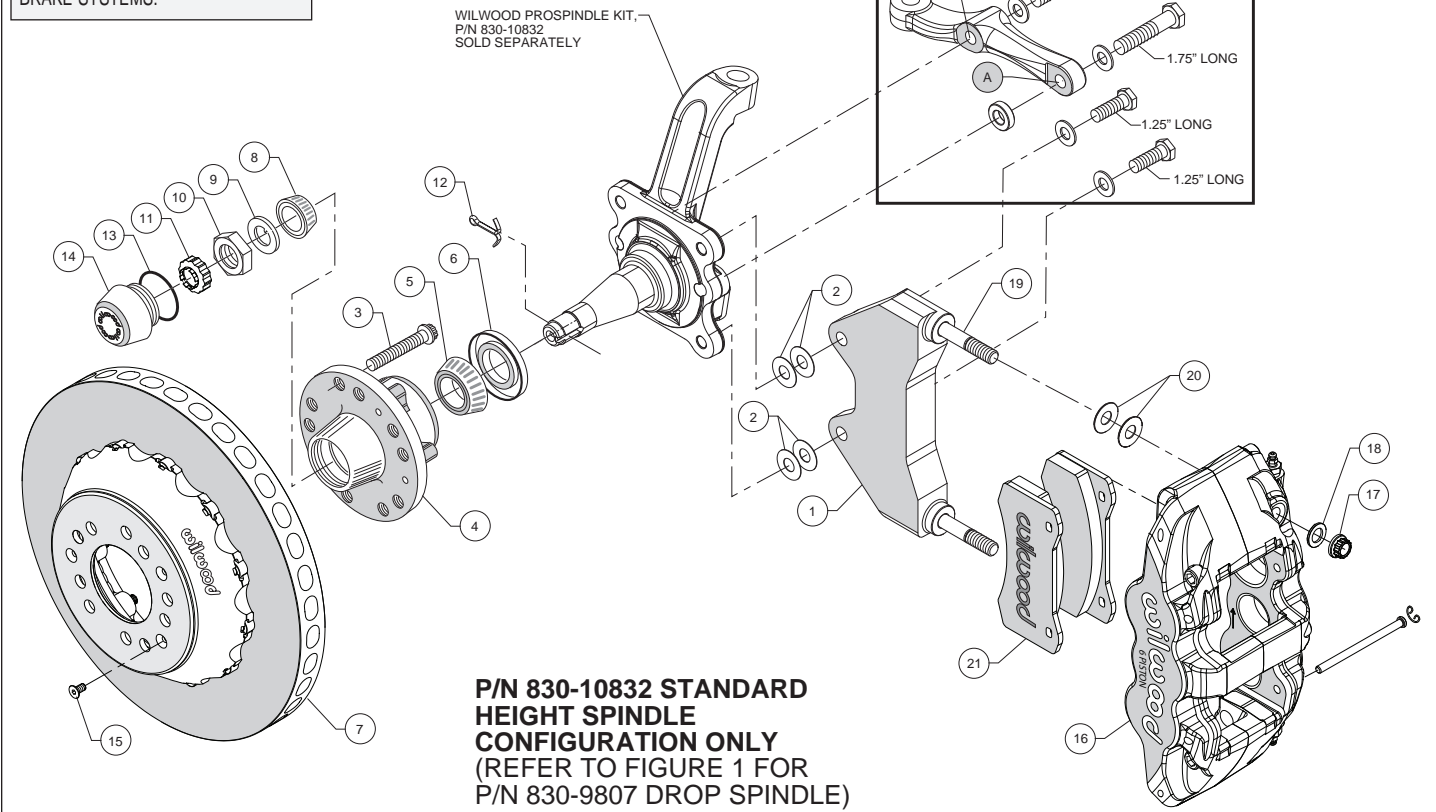

Figure 2. Installation Configuration For Standard Hieght Spindle, P/N 830-10832
- Orient the bracket as shown in Figure 2 and Photo 2. Install using 1.25" long bolts and .06" thick washers (from ProSpindle kit), and two .016" thick shims (2) on each bolt between the bracket and spindle, Figure 2. Temporarily tighten mounting bolts. **NOTE:** *The bracket must fit squarely against the mounting points on the spindle.* Inspect for interference from casting irregularities, machining ridges, burrs, etc. Later, after the caliper alignment has been checked, the mount bolts will be secured using red Loctite® 271.
- Orient the steering arm, and identify the hole marked 'A', as shown in Figure 2. Install using 1.75" long bolt, .06" thick washer, and .30" thick spacer (all from ProSpindle kit), Figure 2.
- Finish attaching the steering arm through the hole marked 'B', as shown in Figure 2. Install using 2.00" long bolt and .06" thick washer (from ProSpindle kit), Figure 2.